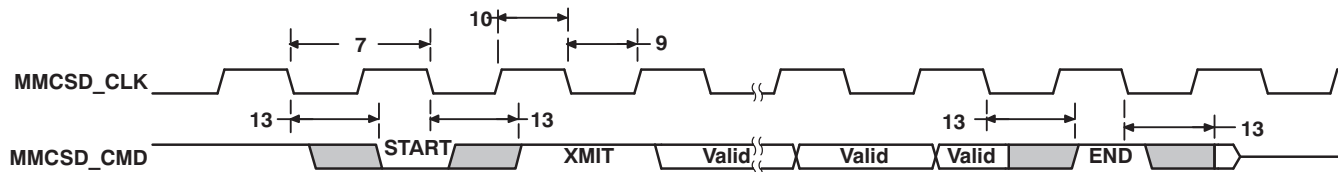
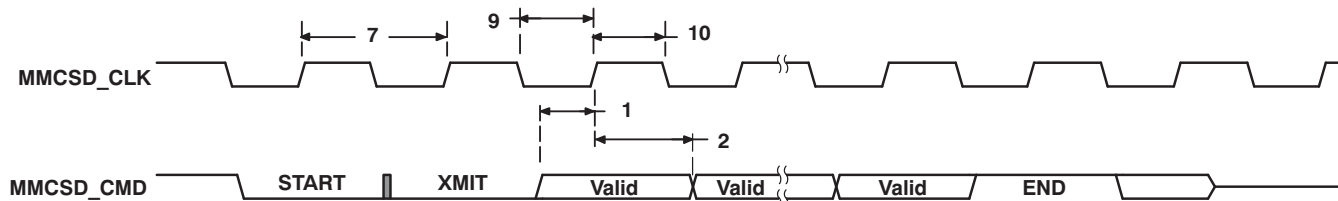
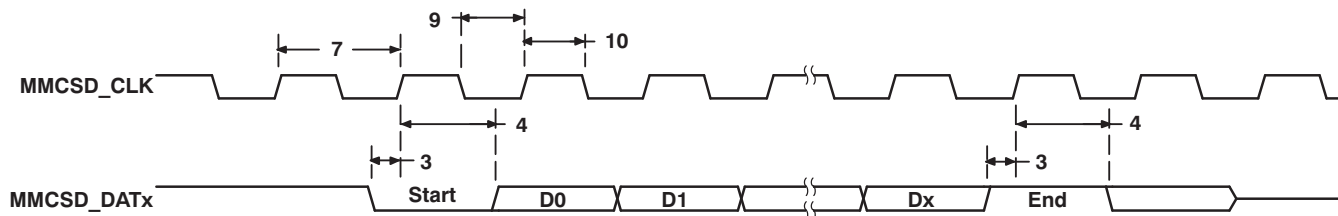

Figure 6-24. MMC/SD Host Command Timing
Figure 6-25. MMC/SD Card Response Timing
Figure 6-27. MMC/SD Host Read and Card CRC Status Timing
(see Figure 6-25 and Figure 6-27)
**Table 6-41. Switching Characteristics for MMC/SD** (see Figure 6-24 through Figure 6-27)